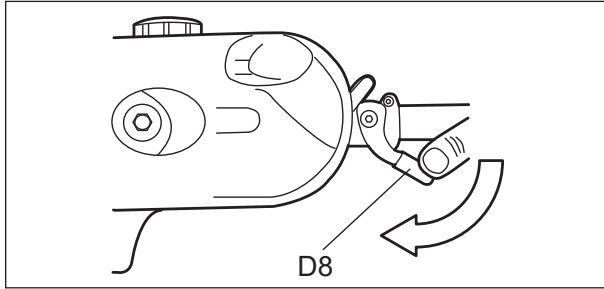

Fig. 17a
- a). Press the locking lever (D8) downward and hold it in position. (See Fig. 17a)